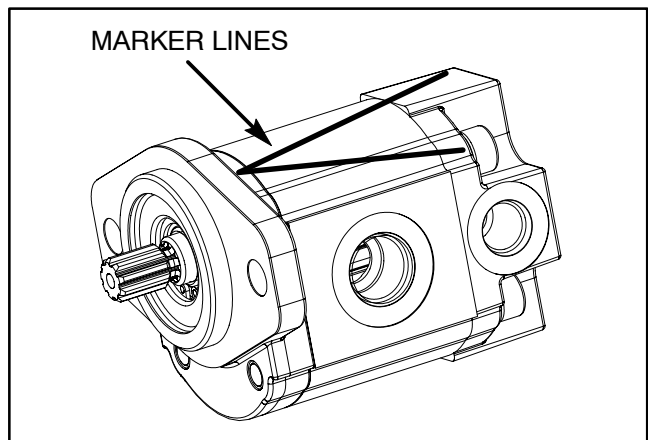

Figure 97
2. Use a marker to make a "V" across the front plate, body and back plate for assembly purposes (Fig. 97).
4. Loosen four (4) socket head screws that secure the back plate.